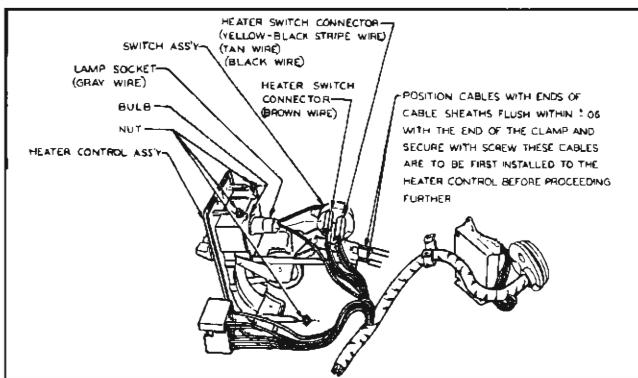

Fig. 12-5 Adjustment of Control Cables at Control Panel
1. Check to see that the temperature control valve cable housing extends no more than $\frac{1}{16}$ " beyond the cable housing clamp on the control panel assembly (Fig. 12-5).
- Check to see that the air cable housing does not extend any farther than $\frac{1}{16}$ " beyond the cable housing clamp on the control panel (Fig. 12-5).